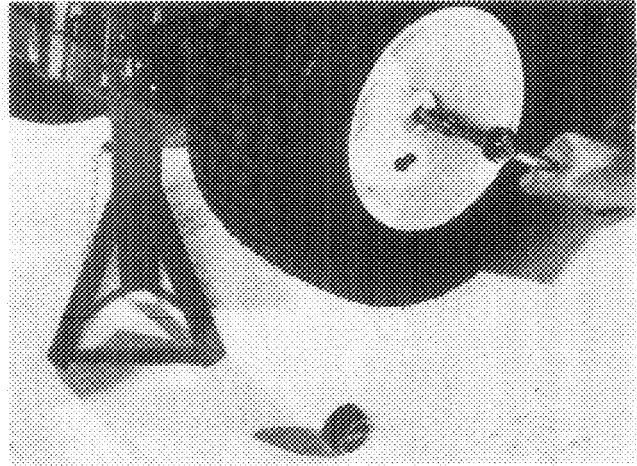

Figure 38
4. Remove the capscrew from the axle (Fig. 38).